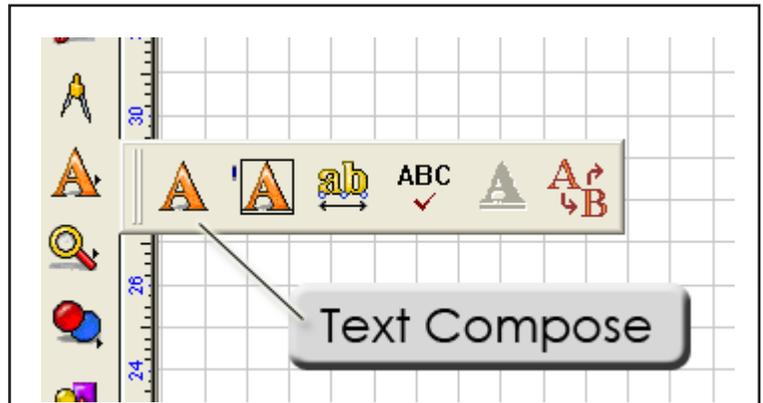

Fig. 88 - Choose the **Text Compose** tool and click the workspace to place a text entry point.
3. From the **Text Tools** flyout, choose the **Text Compose** tool (Fig. 88).